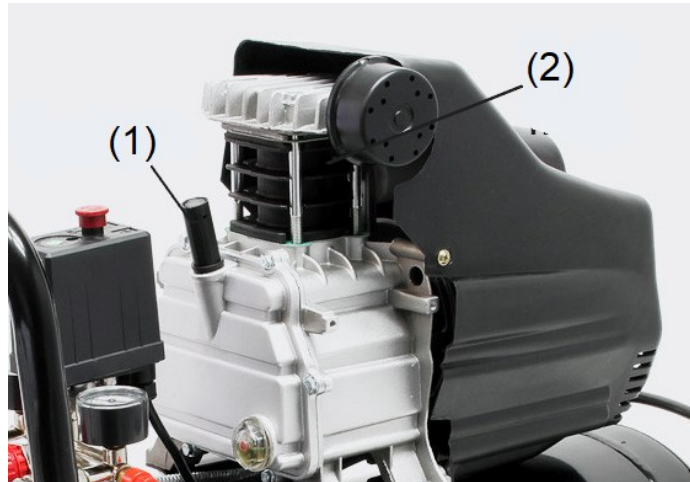

Figure 3
- Put the cover off first and put on the air pipe and air filter before running the compressor (**fig. 3**).